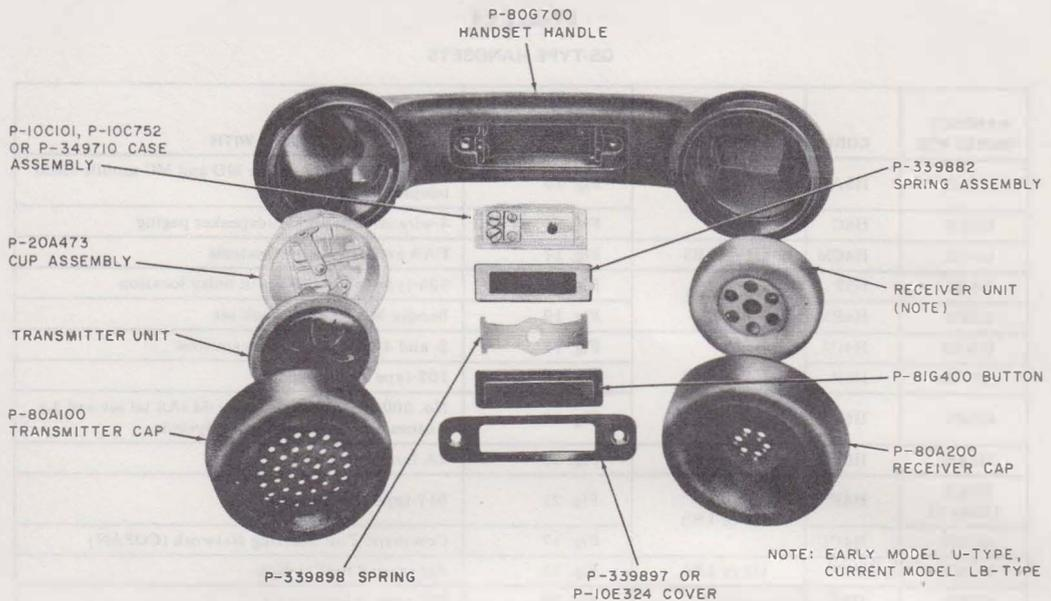

Fig. 9—G5-Type Handset Assembly
2.25 The G5-type handsets (Fig. 9) are equipped with a pushbar switch located in the handle. The pushbar switch is wired for push-to-talk, push-to-listen, or to control an external function.